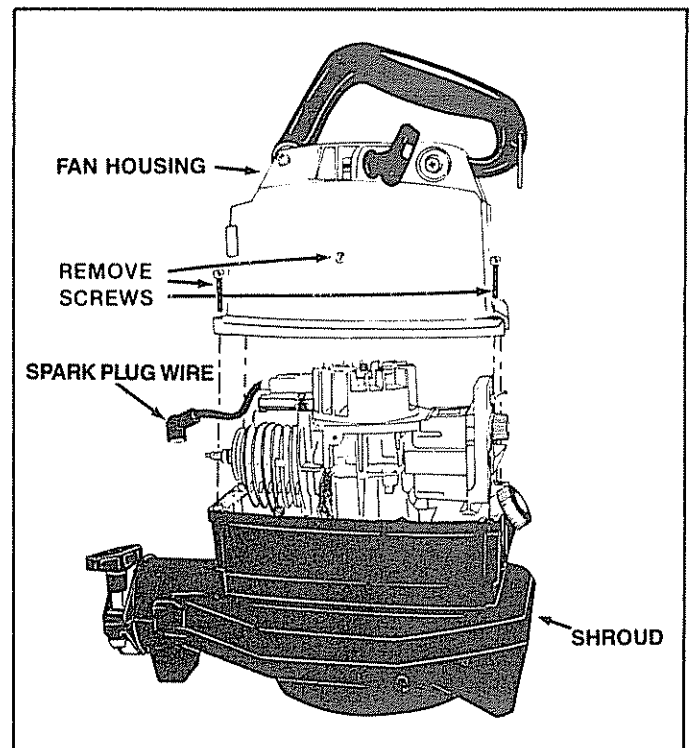

Figure 16
1. Disconnect the spark plug wire and remove the 6 screws from the fan housing. Figure 16.